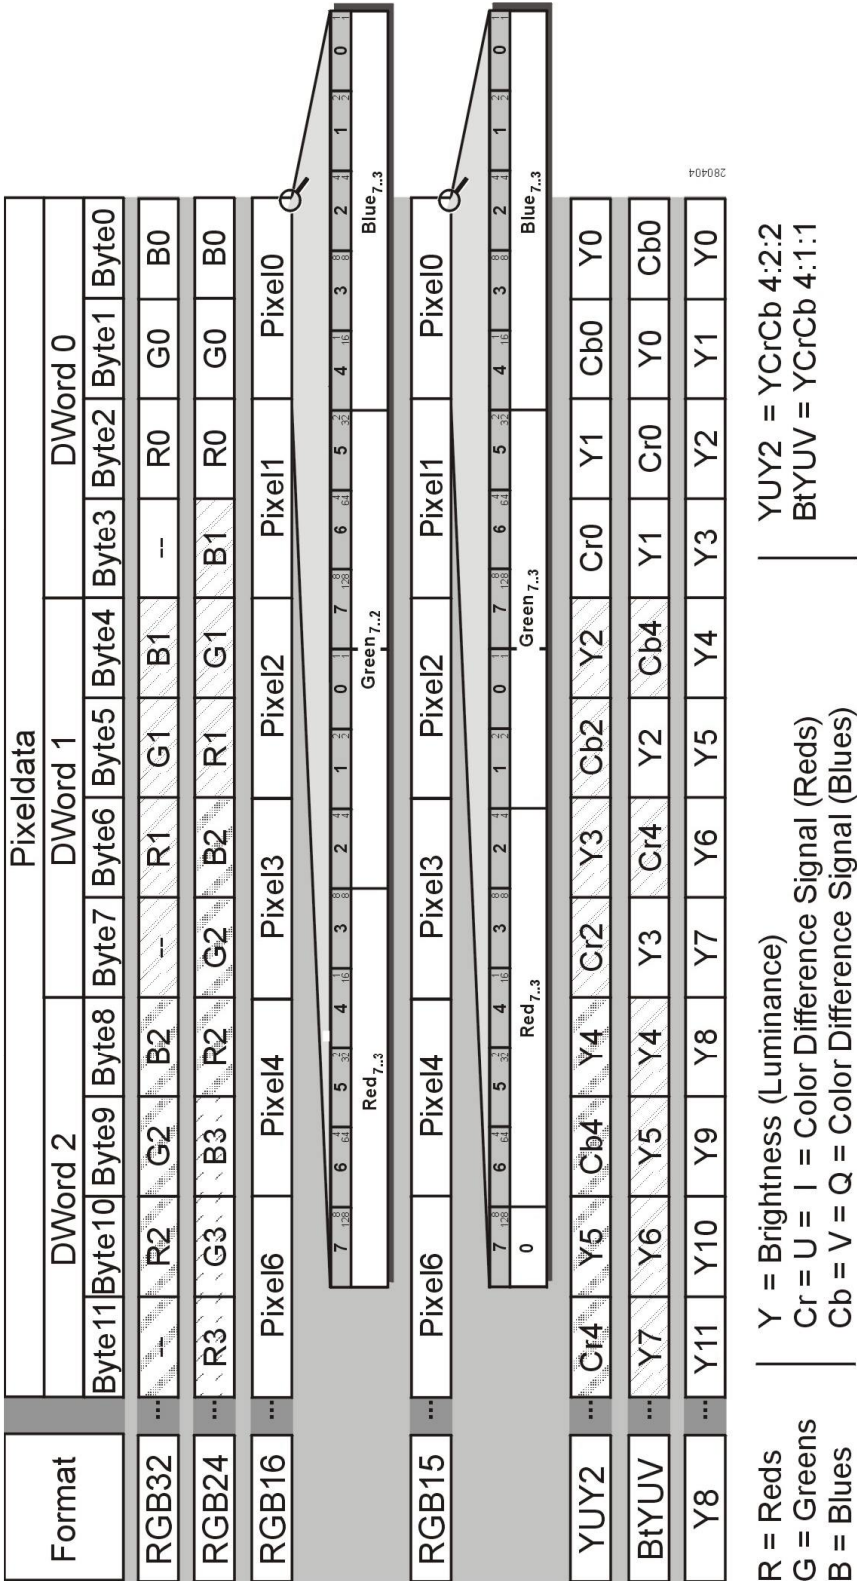

Figure 49: Color Format of the pciGrabber-4x4
The format is determined by the application. In general three formats can be distinguished, which again can be separated in different formats. Figure 49 shows how pixels can be stored in the memory for different formats.
- For *RGB32* 32-bit, a double word per pixel is utilized. The lowest Byte of each double word contains the information for the blue color (8-bit), the second Byte the green and the third Byte the red color information. The highest Byte contains no information and is used only to obtain a whole double word for one pixel: After each double word a new pixel begins (see Figure 49 that related information have same hatching). The alignment of double words might have the advantage, that fast access commands could be used. The number of colors is 16 million ( $2^{38} = 16.777 \cdot 10^6$ ).
- *RGB16* has a reduced resolution of the color. This format requires five bit for the blue and red channel, and the green channel has 6-bits. The color depth is 65.536 ( $2^5 \cdot 2^5 \cdot 2^6 = 65536$ ). One pixel needs 16-bits = 1 word. In Figure 49 the partitioning into three color channels of the word is depicted. The color information is arranged „left justified“; the lower bits are omitted, so that the color depth is reduced. The color depth of the green channel is twice of the two other channels. The RGB16-format corresponds to the color system of graphic cards with 65.535 colors.
- *RGB15*: The division corresponds to the RGB16-system, except that all color channels have the same color depth (each 5-bit=32 levels). Therefore we yield 32.818 colors. Altogether only 15-bits are necessary, so that the upper bit of a word is a stuffing bit and has the value 0 (see Figure 49).
- *BtYUV* : corresponds to YCrCb 4:1:1. Four pixels share one color information. The arrangement of the information in the memory is shown in Figure 49. Three double words are logically combined to one unit and contain the information for eight pixels. This is the value for the brightness for each pixel (Y0..Y7) and the color information of the first (Cb0/Cr0) and fifth pixel (Cb4/Cr4).